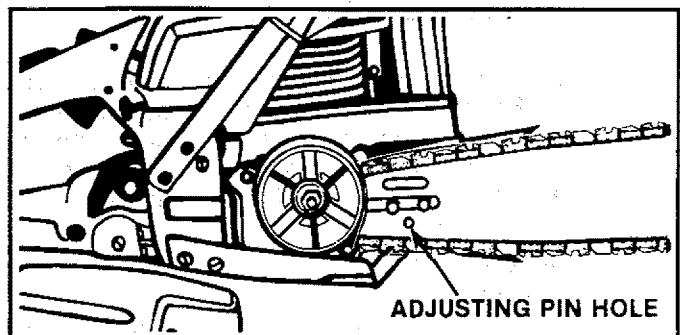

Figure 7
- h. Pull the Guide Bar forward until the chain is snug in the guide bar groove. Figure 7.